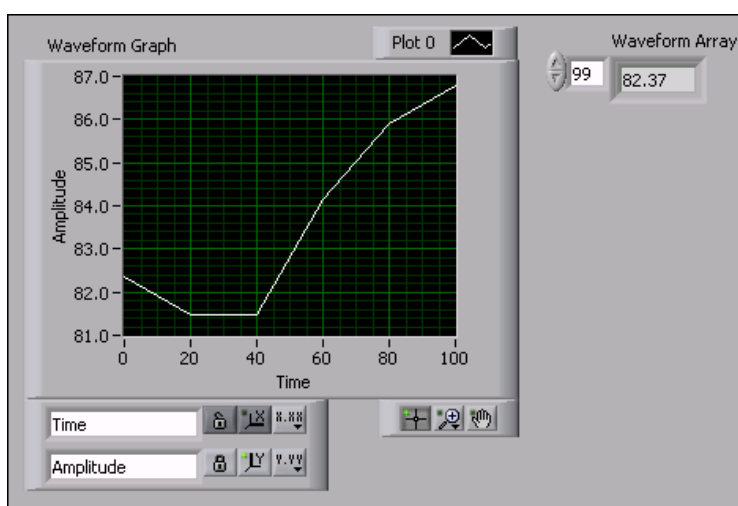

Figure 5.16
1. Open a blank VI and build the front panel shown in Figure 5.16.